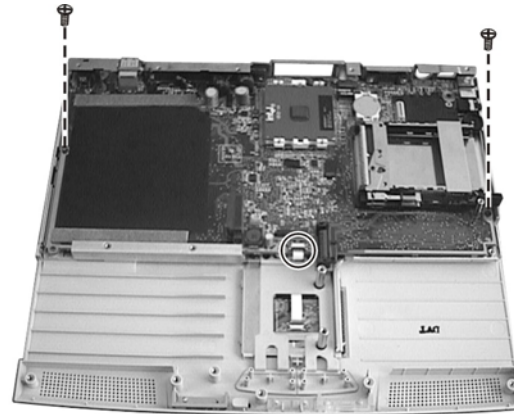

Figure 2-26
9. Remove two screws fastening the system board and disconnect the cable of the touchpad. Now you can lift the system board up from the base unit. (figure 2-26)